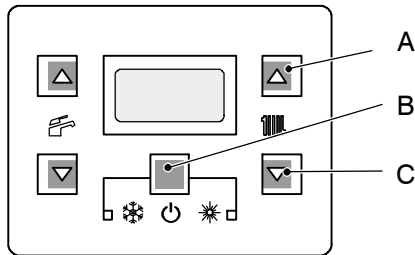
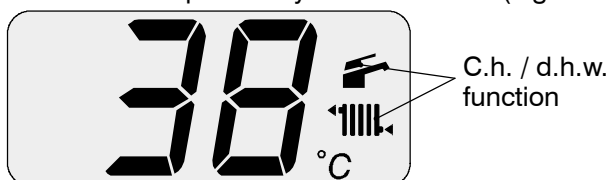

Fig. 11.5
Fig. 11.10
- 14 To enter in the parameters setting mode press contemporary the 3 keys (A – B – C Fig. 11.5) for 10 second until the display shows Fig. 11.6
- 15 Press keys A and C (Fig. 11.5) at the same time until the display shows the letters **LP** that alternate with the heating water temperature value (e.g.**45**), indicating the activation of the "chimney sweep function" at minimum output (Fig. 11.7).
- 23 Press keys A – B – C (Fig. 11.5) at the same time again to exit the "chimney sweep mode" and return to the previously set boiler status (Fig. 11.10)